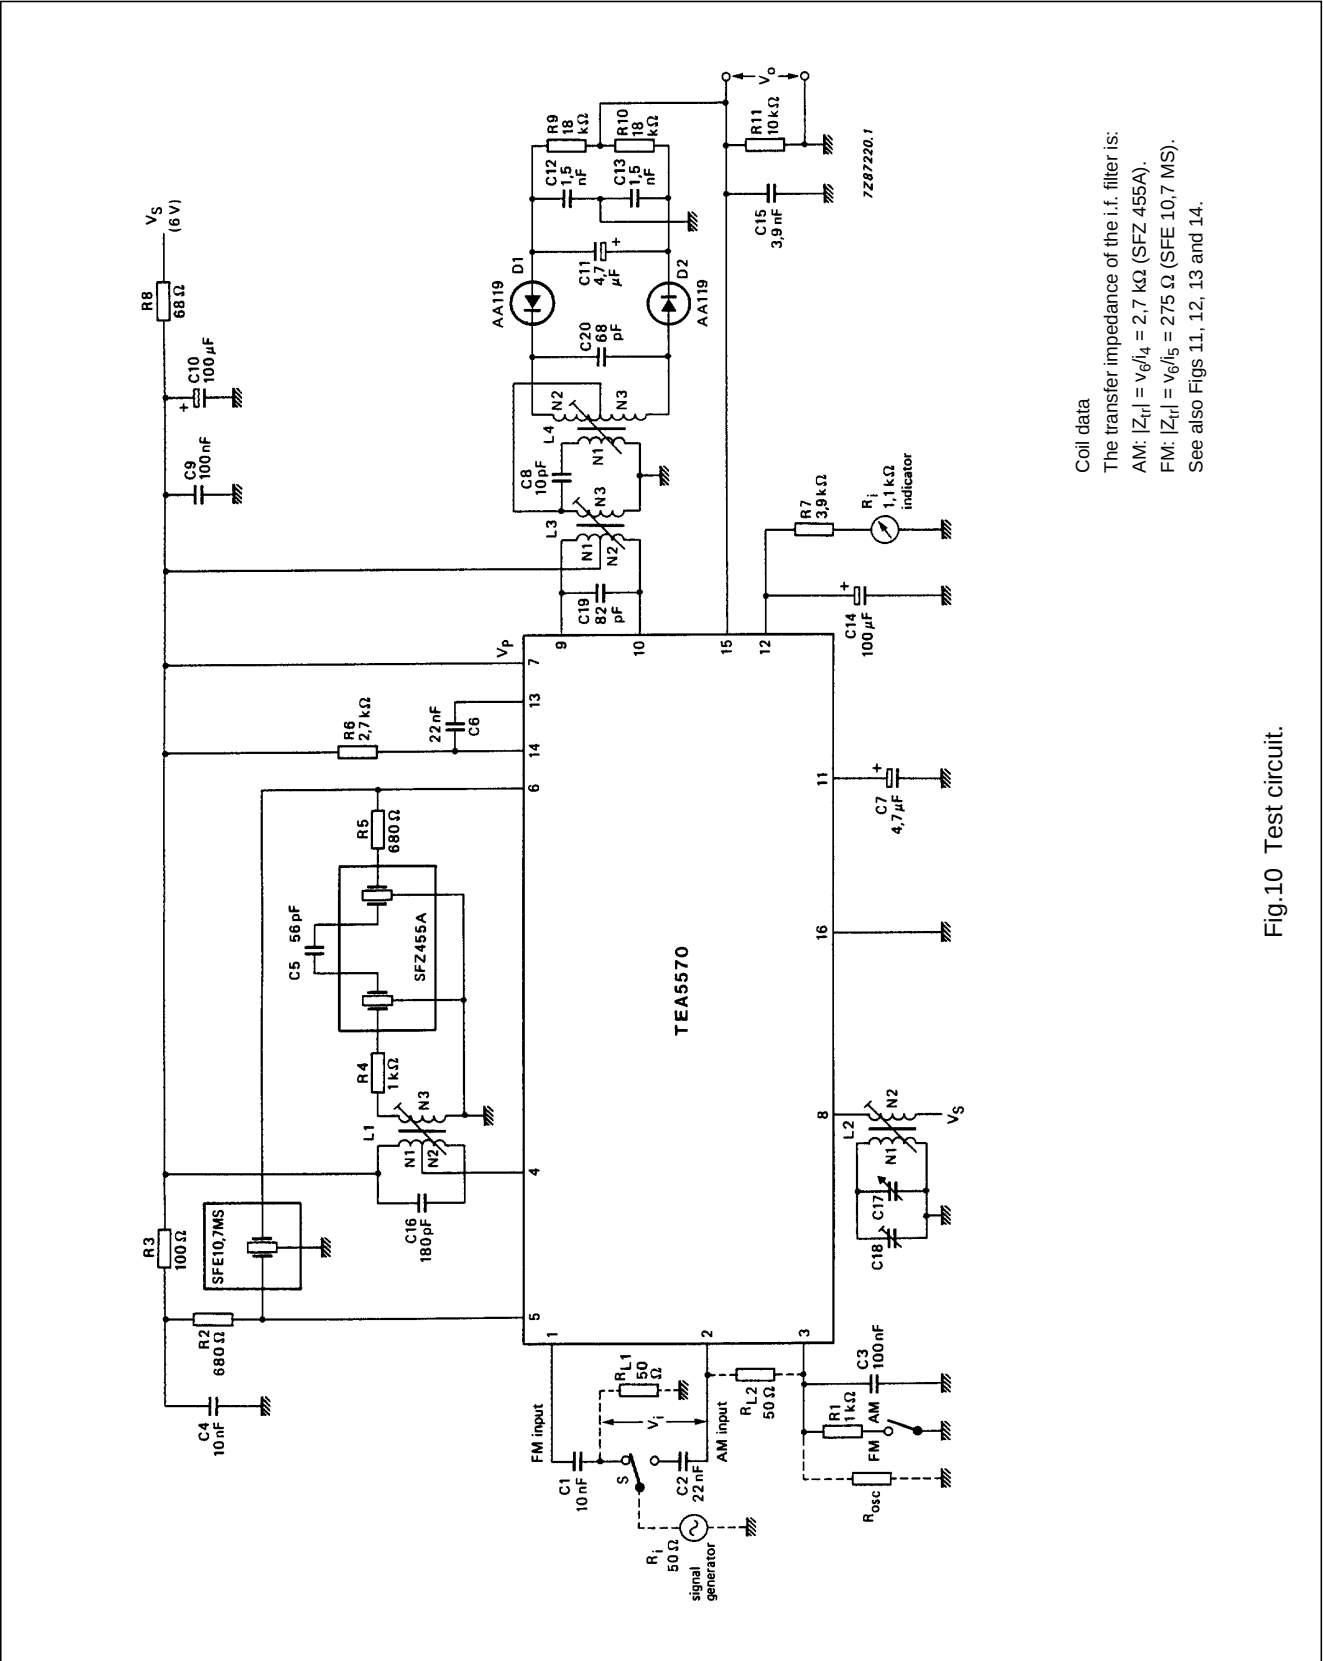
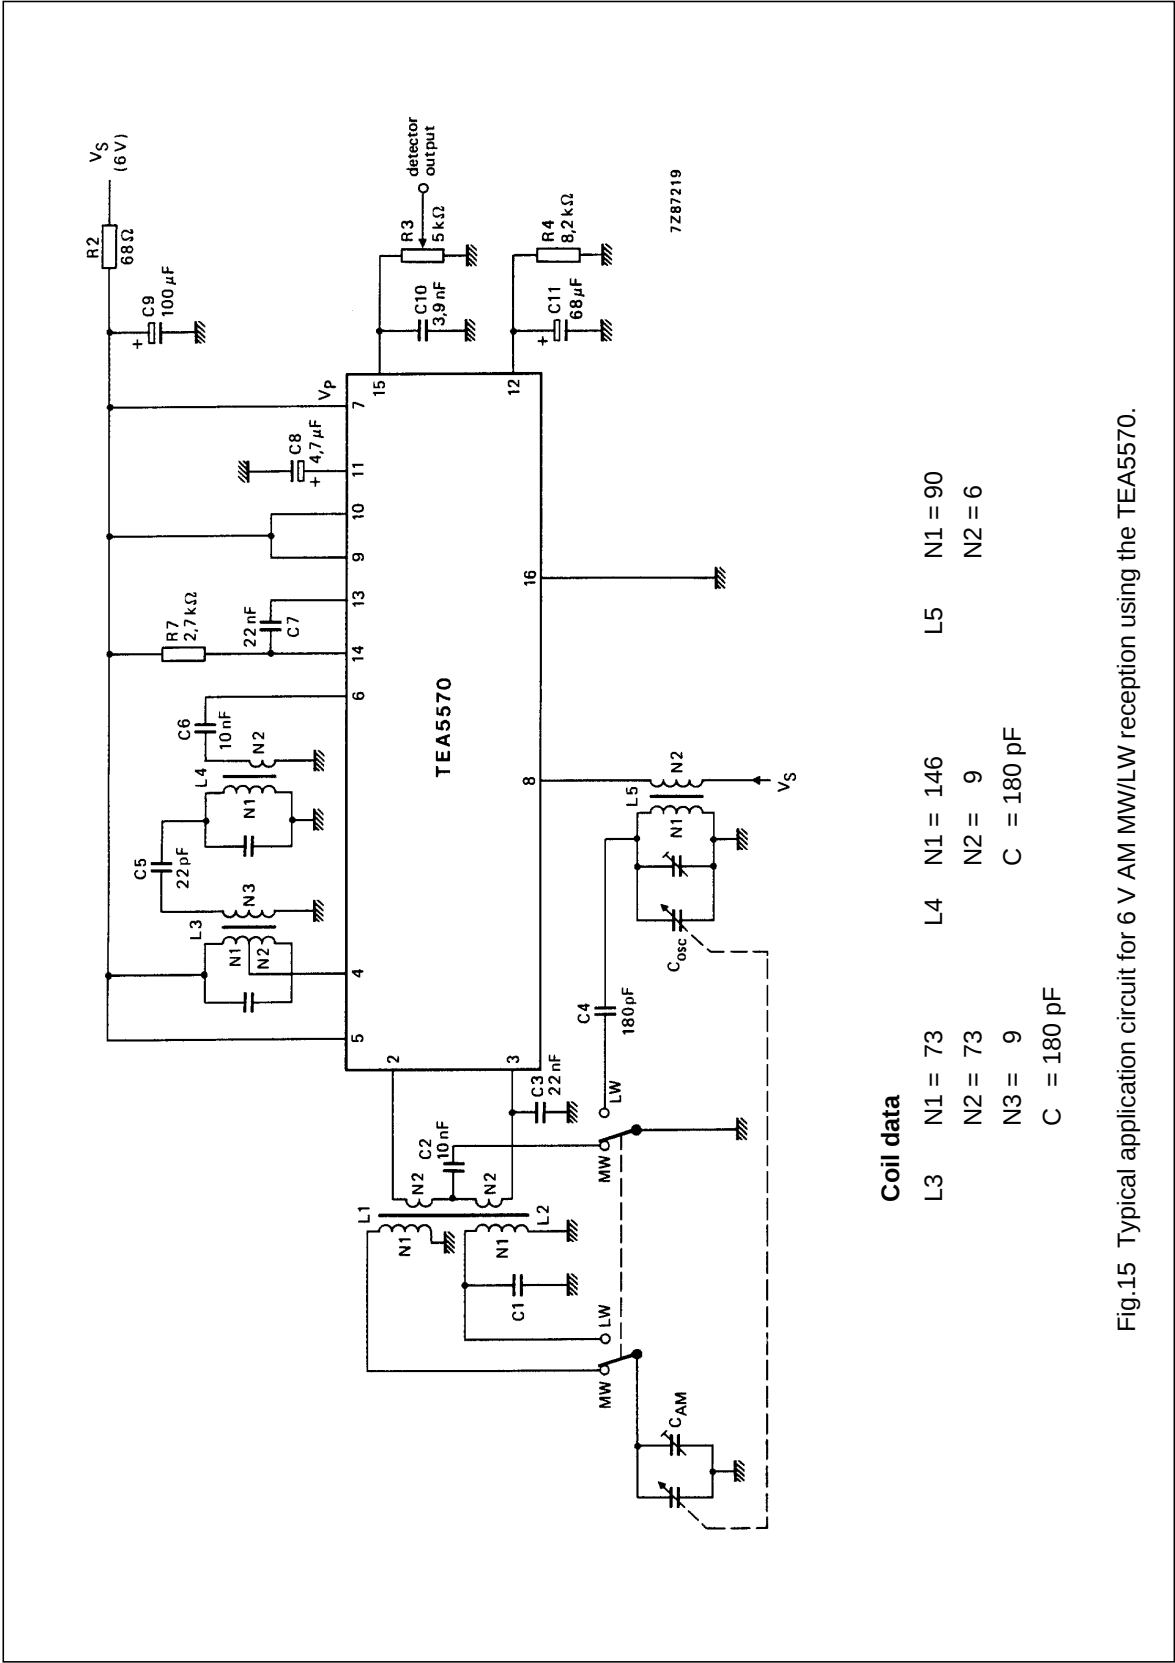
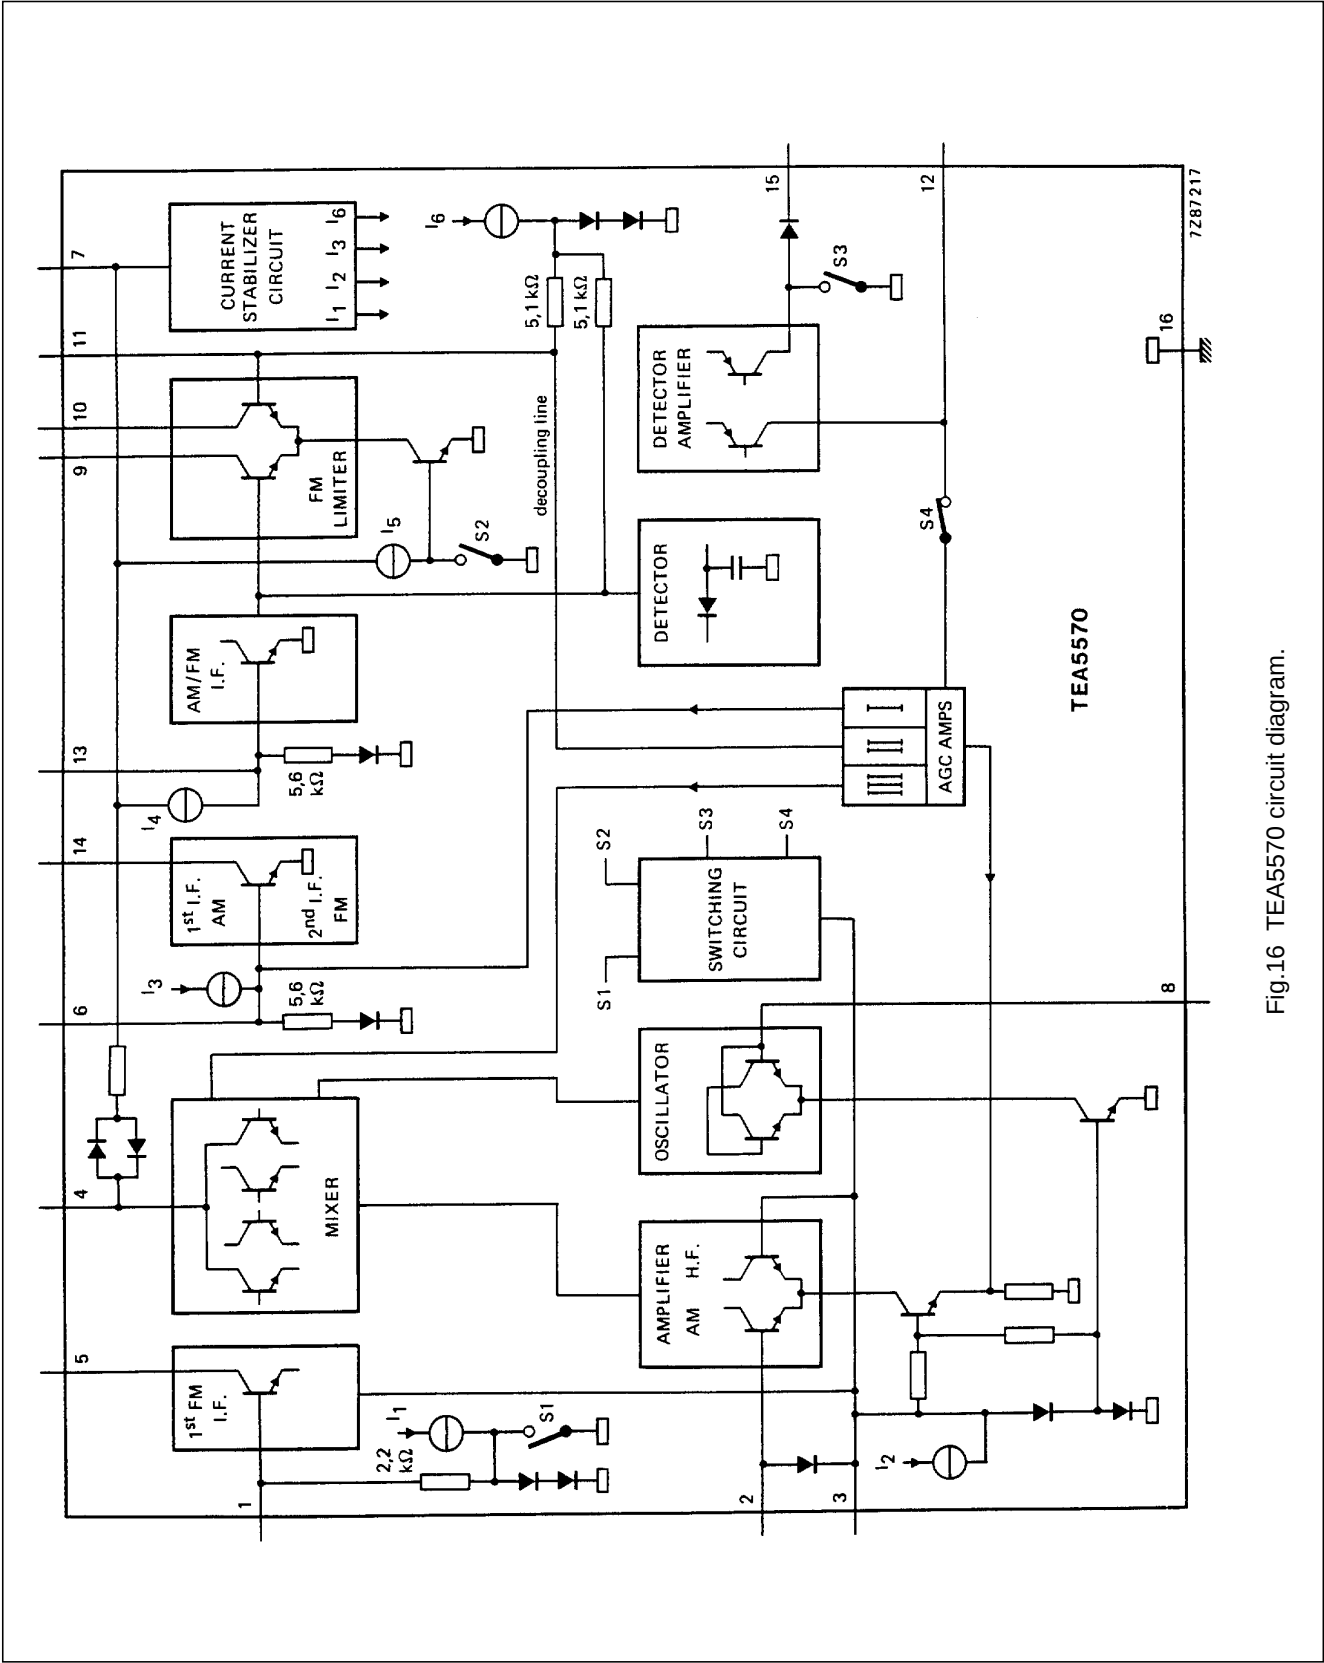

Fig.10 Test circuit.
Fig.15 Typical application circuit for 6 V AM MW/LW reception using the TEA5570.
Fig.16 TEA5570 circuit diagram.
$|Z_{\text{tr}}| = v_6/i_4 = 2,7\text{ k}\Omega$; measured in Fig.10; unless otherwise specified
$|Z_{\text{tr}}| = v_6/i_5 = 275\text{ }\Omega$; measured in Fig.10; unless otherwise specified
- Oscillator voltage at pin 8 can be preset by R_{osc} (see Fig.10).
- Maximum current into pin 5 can be adjusted by R1 (see Fig.10); $I_5 = \frac{V_{3-16}}{R1} - I_3$ when $V_{3-16} = 800 \text{ mV}$; $I_3 = 400 \mu\text{A}$.
Facility adaptation is achieved as follows (see Fig.10):
Fig.5 Sensitivity (V_i) and output voltage (V_o) as a function of supply voltage (V_P). Measured at $f_i = 1$ MHz in test circuit Fig.10, for application $V_P = 6$ V. Also shown is the sensitivity for $V_P = 4,5$ V application (Fig.16).
Measured at $f_i = 10,7$ MHz in test circuit Fig.10.
Fig.9 Indicator output current (I_{12}) and d.c. output voltage (V_{12-16}): AM $f_i = 1$ MHz; FM $f_i = 10,7$ MHz as a function of input voltage (V_i). Measured in Fig.10; $V_P = 6$ V; $R_{12-16} = 5$ k Ω .
AM i.f. coils (Fig.10)
FM i.f. coils (Fig.10)
Figs 15 and 17 show the circuit diagrams for the application of 6 V AM MW/LW and 4.5 V AM/FM channels respectively, using the TEA5570. Fig.16 shows the circuitry of the TEA5570.